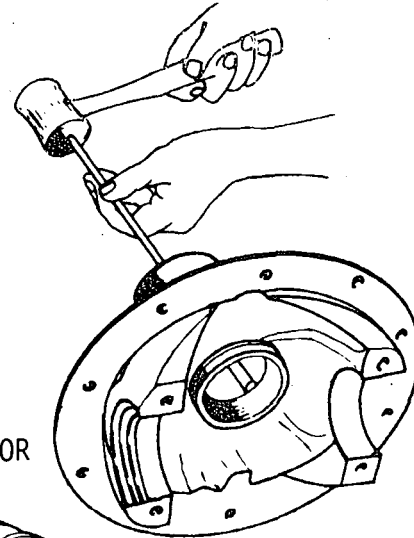

Fig. 3
- c) Remove the bearing races from the cover of the differential (fig. 3).